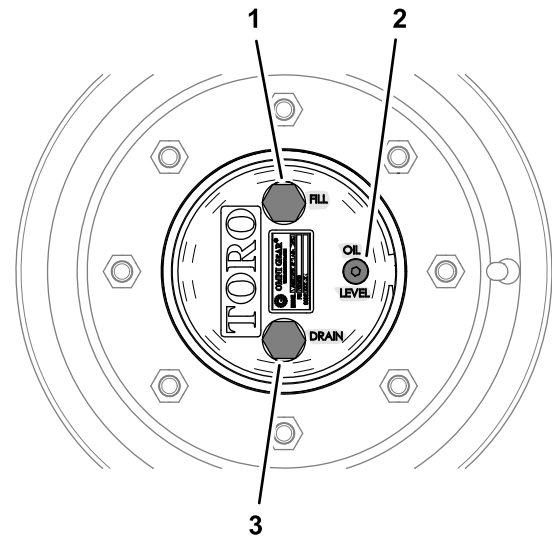

Figure 87
1. With the machine on a level surface, position a wheel so that the fill plug is at the highest (12 o'clock) position and the drain plug is at the lowest (6 o'clock) position (Figure 87).
1. With the machine on a level surface, position a wheel so that the fill plug is at the highest (12 o'clock) position and the drain plug is at the lowest (6 o'clock) position; refer to Figure 87 in Checking the Planetary-Gear-Drive Lubricant (page 66).